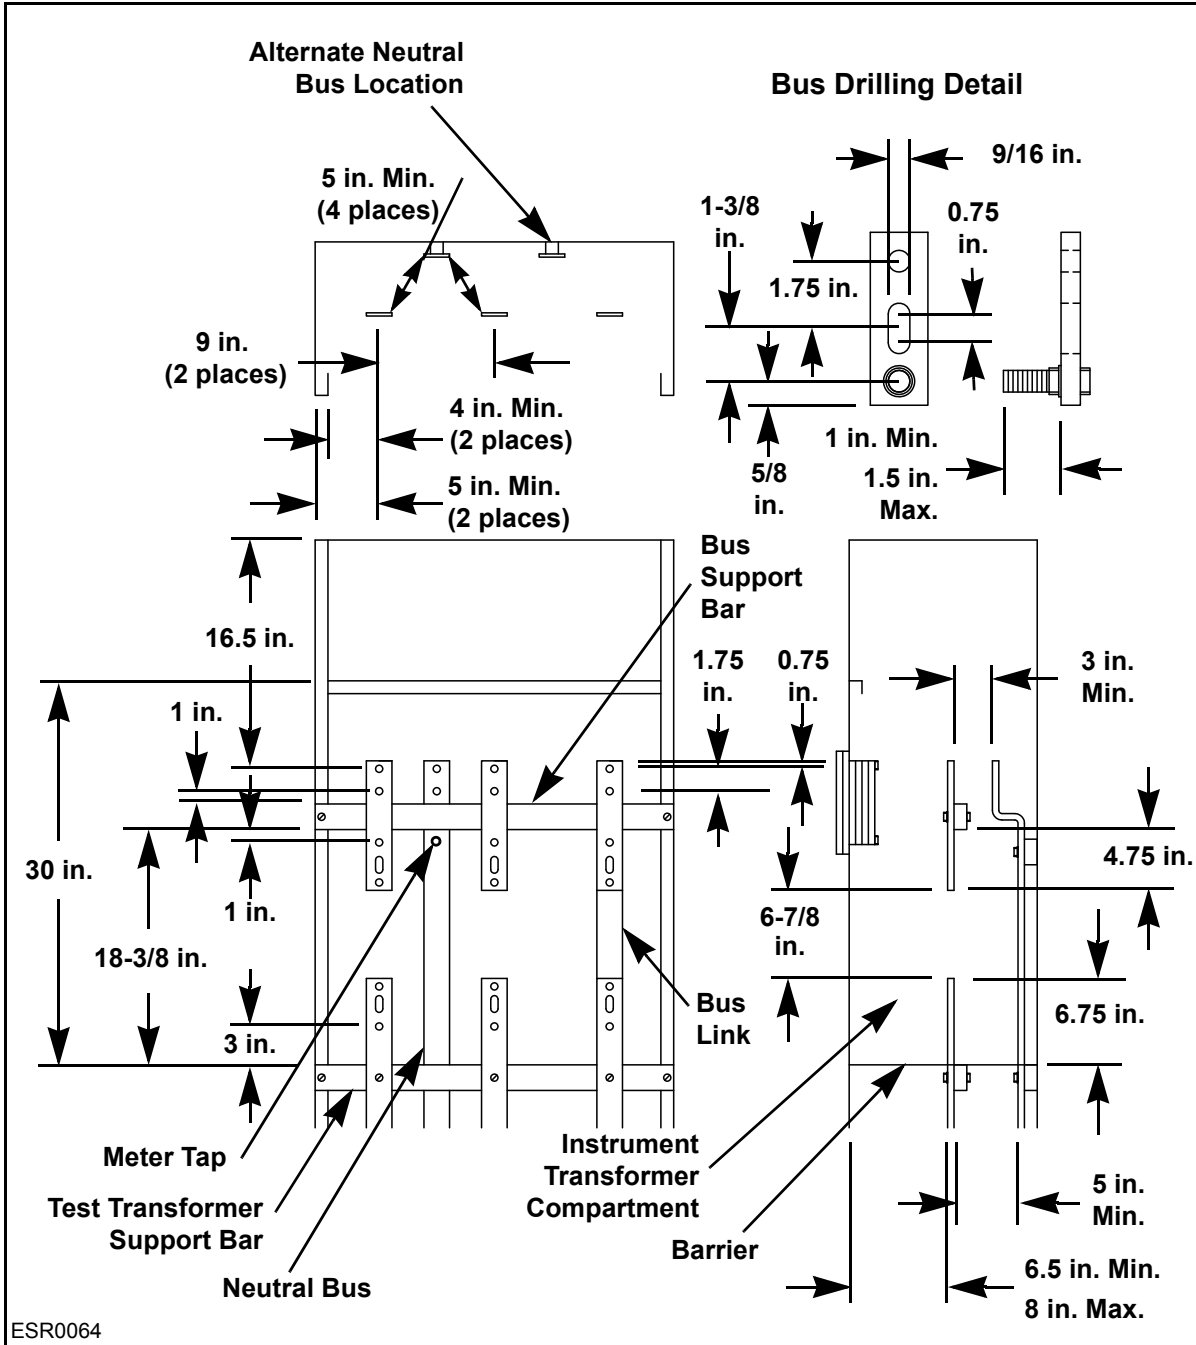

Figure 11-13: Current Transformer Compartment for Switchgear 0 to 1000 Amps,
Follow these additional requirements when installing a CT compartment for switchgear 0 to 1000 amps, 0 to 600 volts, three-phase, four-wire service (EUSERC 320), such as that shown in **Figure 11-13**.
- Bus arrangements and supports shall be provided as shown in **Figure 11-13**. The neutral bus may be located at either side.